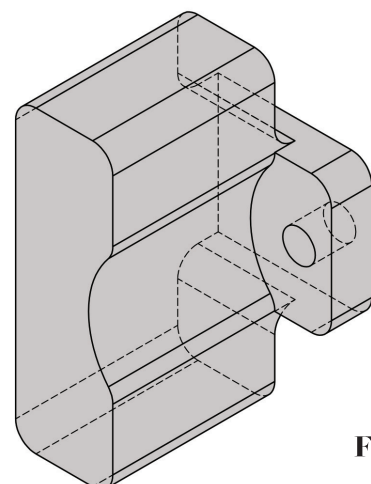

FIG 19.
- Once the sliding door track has been fitted and held in place, the wall anchor blocks can be moved into position towards the wall (FIG 19).